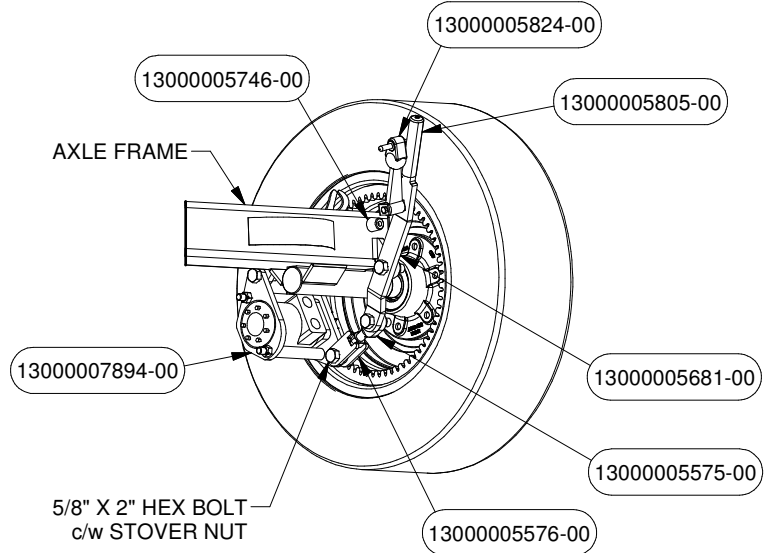

FIGURE 39
- Assemble the Hydraulic Motor PN# 42194, Mount Plates PN# 7894 and PN# 7893, Sprockets PN# 42192 and Spacers PN# 7896 using Hex Bolts Washer and Stover Nuts. Attach the assembly to the Axle Frame using 5/8" Hex Bolt c/w Stover Nut (see Figure 39 and 40).
- Attach the Linkage PN# 5576 and PN# 5575 to the Mount Plate PN# 7893 using Hex Bolt c/w Stover Nut. Attach the Handle PN# 5681 to the Linkage and mount it to the Axle Frame using Hex bolts c/w Stover Nut. Place the Handle Grip PN# 5805 to the Handle (see Figure 39).
- Attach the Latch PN# 5824 to the Axle Frame using Self Tapping Screws. Also attach the Rubber Bumper to the Axle Frame using #10 X 3/8" Self Tapping Screw (see Figure 39 and 40).